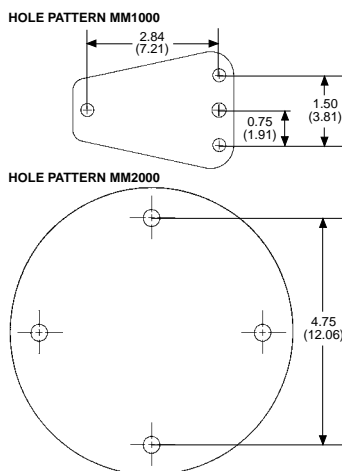

Figure 1. Mounting Dimensions
1. Drill holes in the mounting surface according to Figure 1 and attach the mount securely with suitable fasteners of minimum 1/4-inch diameter (not supplied).